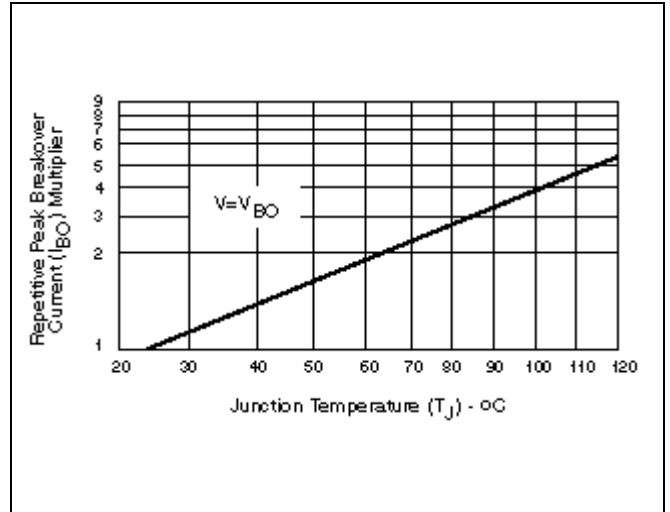

Figure 6 – Normalized Repetitive Peak Breakover Current vs Junction Temperature
- See Figure 6 for  $I_{BO}$  vs junction temperature.